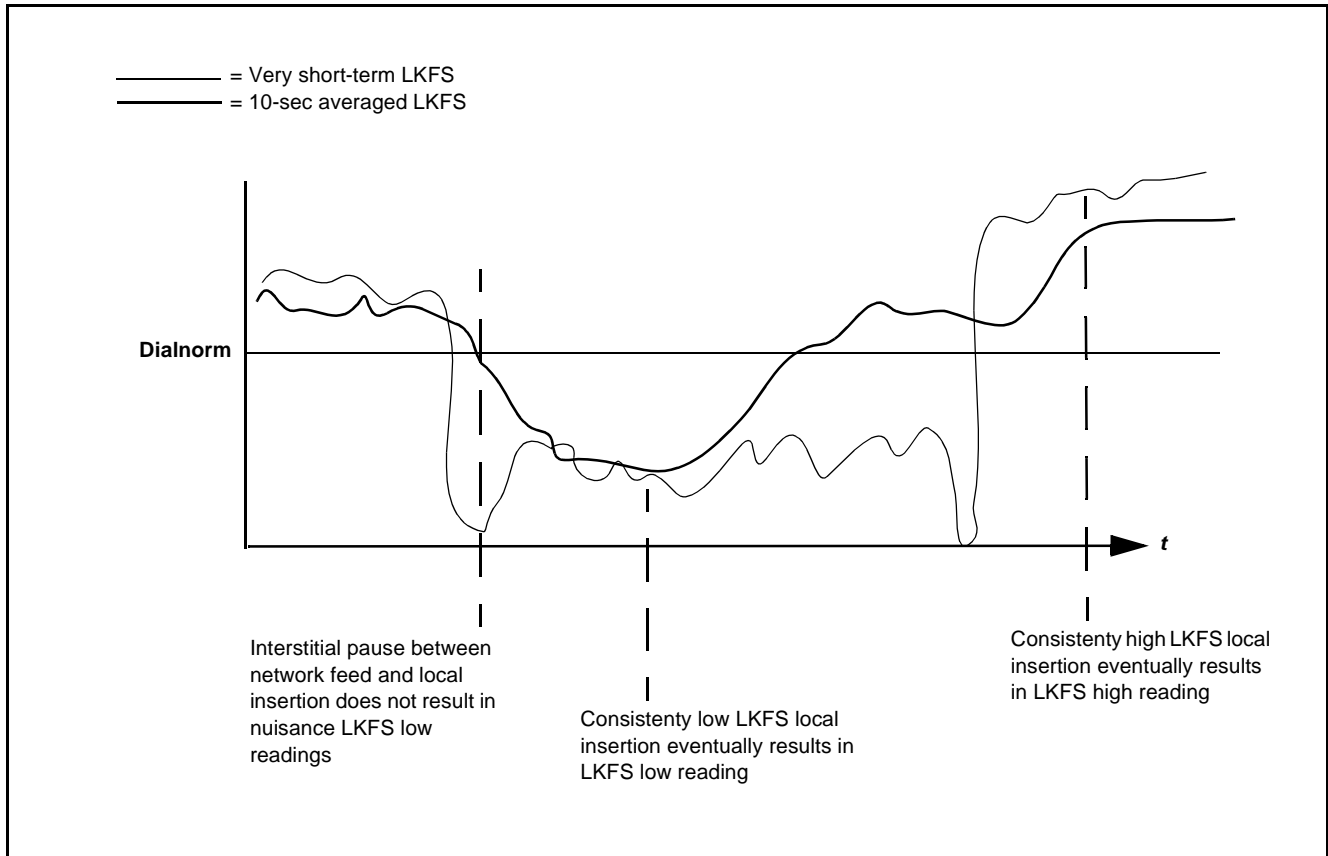

Figure A-4 Long-Form Simplified Measurement
**Long-Form Simplified Measurement.** (See Figure A-4.) Post-production long-form material can in many instances be easily assessed by applying a rather long **Measurement Window** (in this example, 10 seconds). In this manner, the typically brief loudness variations in professionally produced material (or breaks between material) will not result in nuisance errors. However, if the material exhibits a consistent gross deviation from the selected target LKFS or dialnorm (for example, due to level imbalance between a network feed and local insertion), the averaging period is conversely likely to be sufficiently short as to show a level-triggered error somewhere over the course of the offending material.